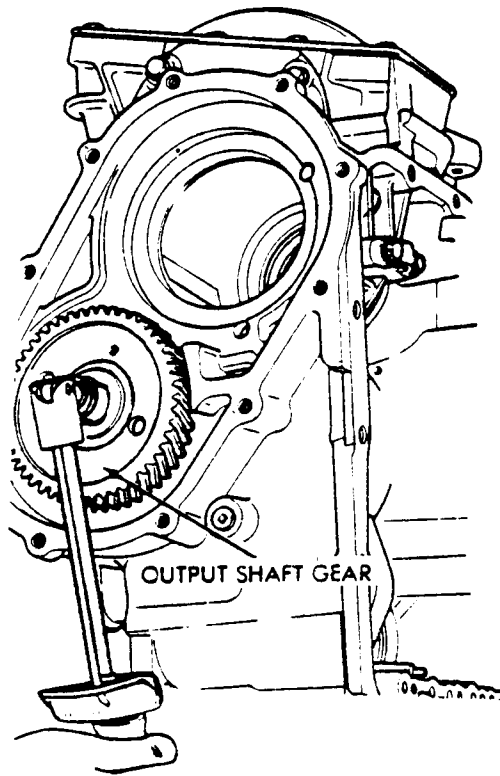

FIGURE 7
9. Using an inch-pound torque wrench, check the turning torque. The torque should be between 3 to 8 inch-pounds (Figure 7).